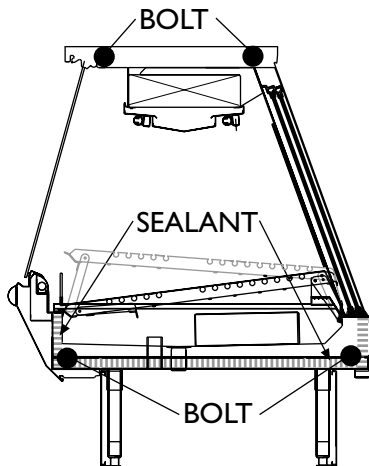

Figure 2
5. Apply liberal bead of case joint sealant (butyl) to dotted area shown in (Fig.2, #1) of first case. Apply heavy amount to cover entire shaded area. **DO NOT USE PERMAGUM!**